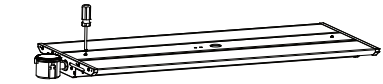

Figure 11
- Step3.Put face cover back with screw driver (Figure 11).